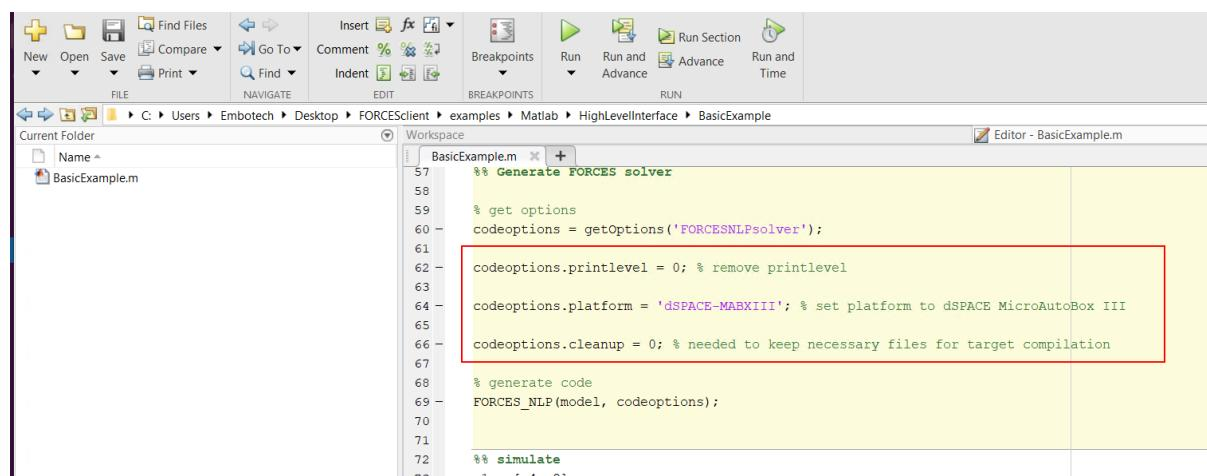

Figure 13.55: Set the appropriate code generation options.
- 1) Set the code generation options (see Figure 13.55):